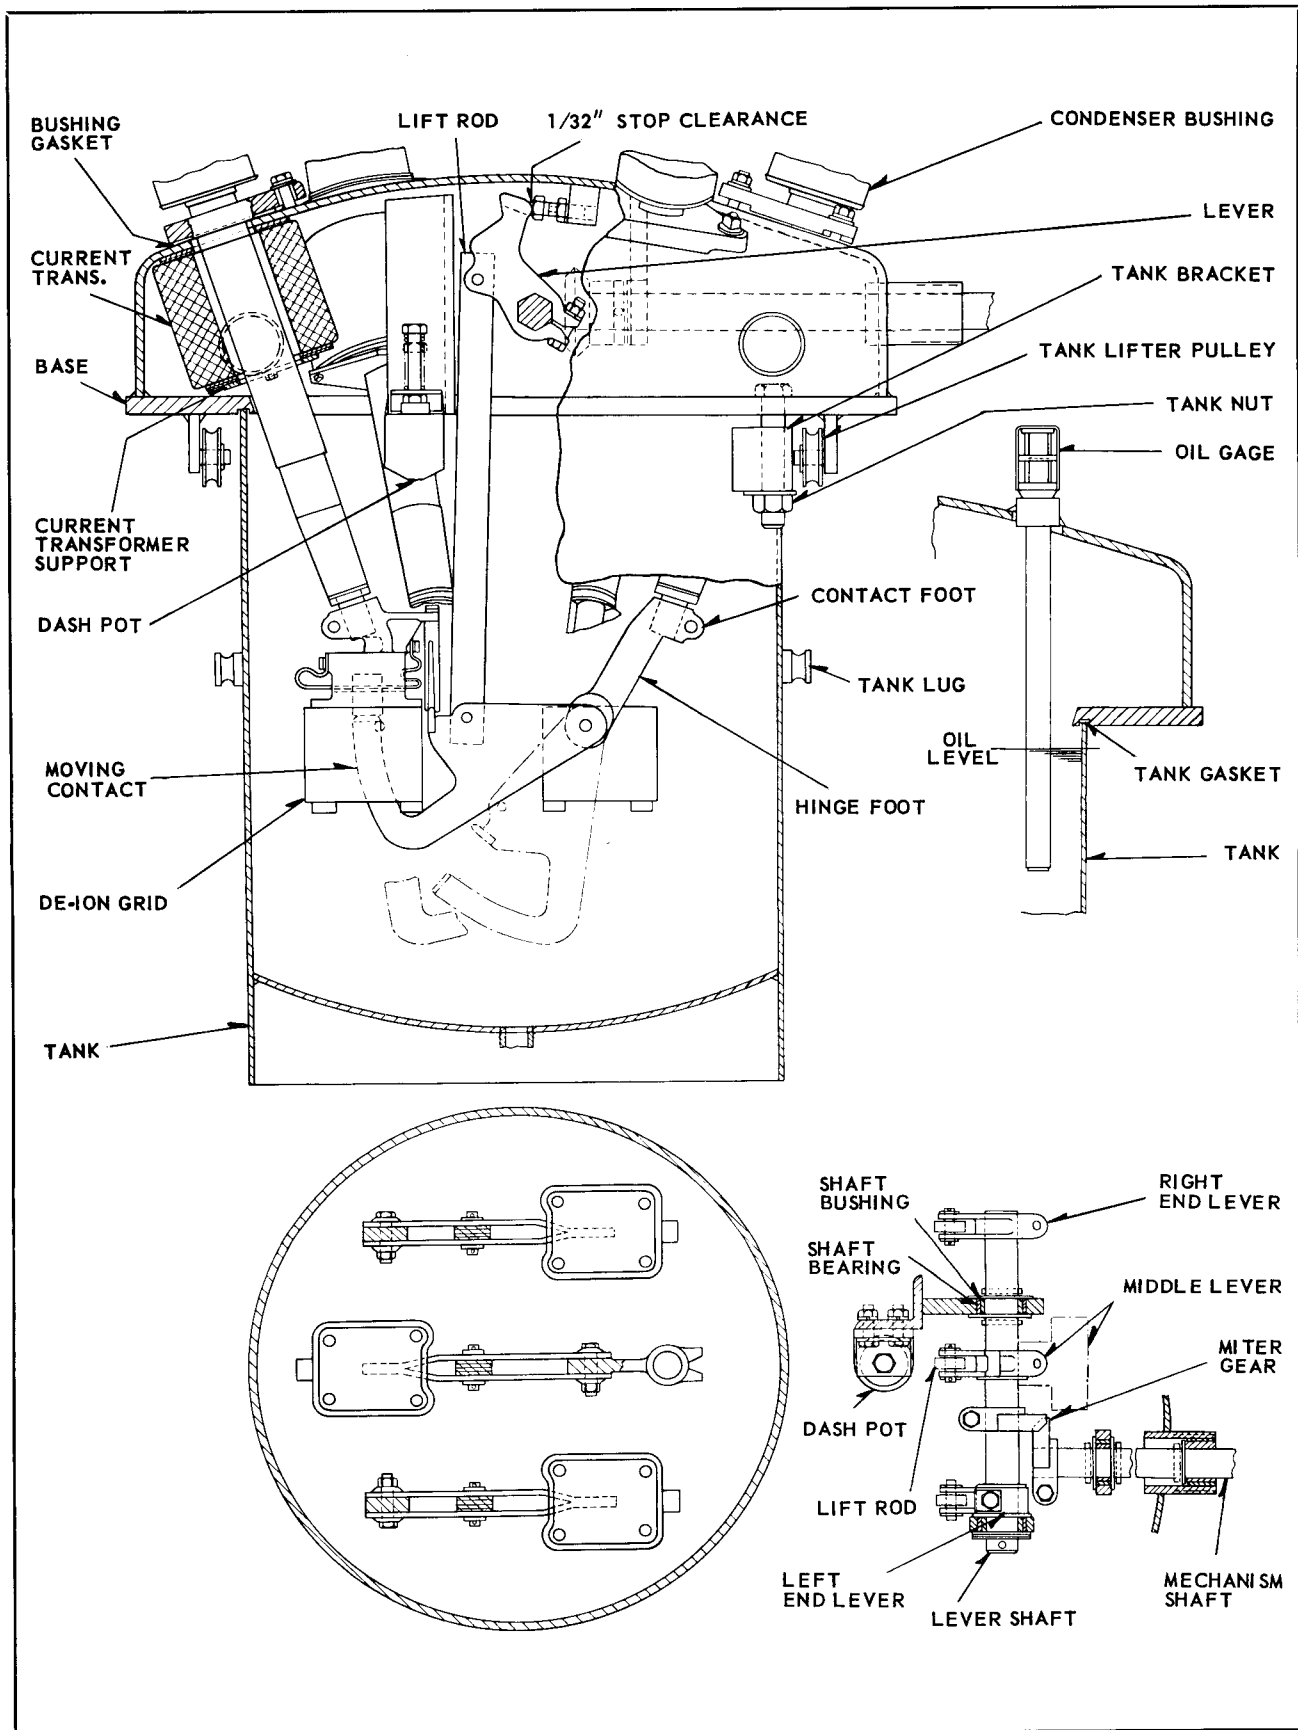
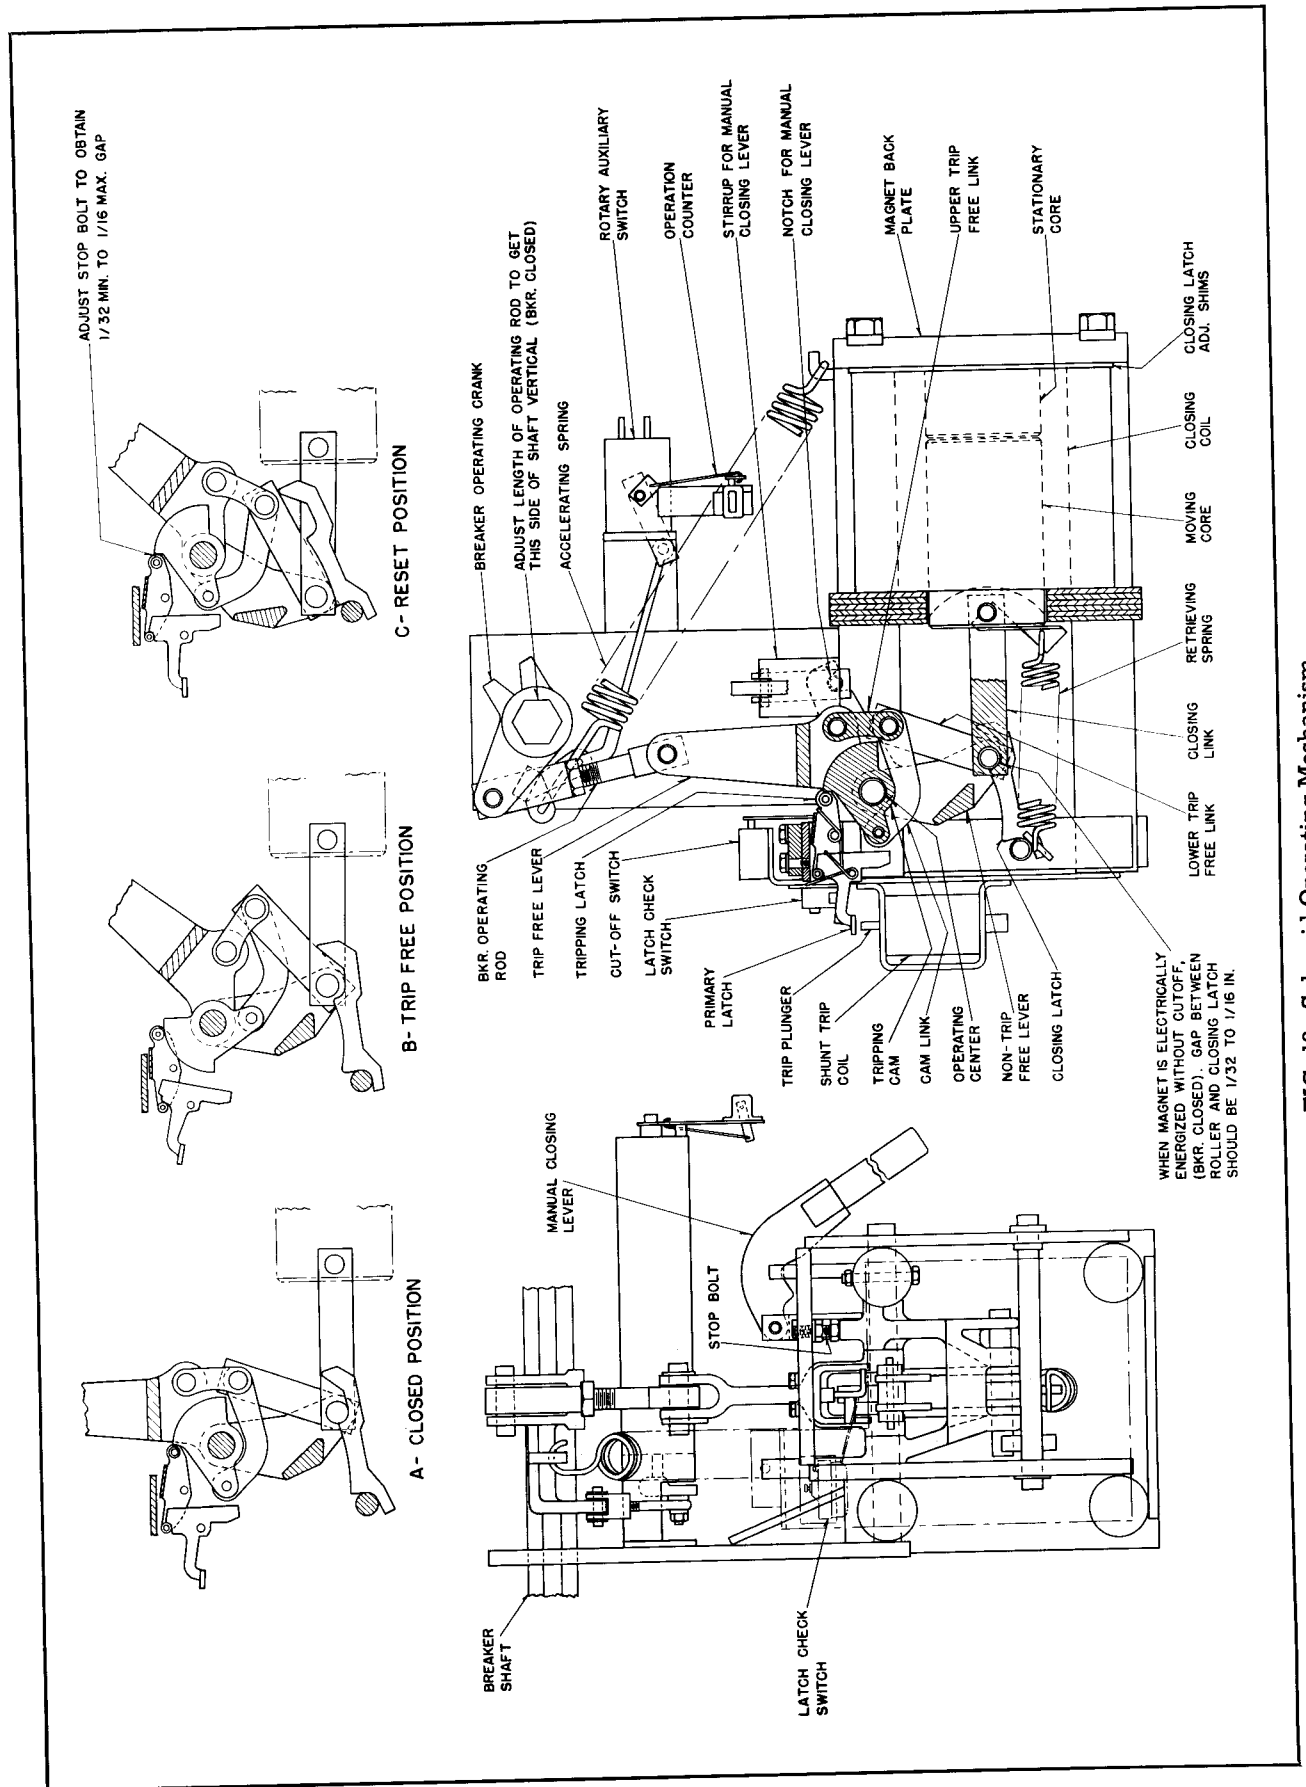

FIG. 4. Pole Unit Assembly—90° Arrangement
FIG. 12. Solenoid Operating Mechanism
6. Push down on hand closing lever in order to get enough overtravel to release the closing latch. Disengage closing latch with screw driver or small stick. (See Fig. 12).
11. Check for  $\frac{1}{32}$ " moving contact stop clearance under dome between middle crank lever and stop bolt (Fig. 4 or 5). With the solenoid mechanism closed and latched, the correct toggle position is obtained when two sides of the hexagonal operating shaft are exactly vertical. This position is controlled by adjusting the length of the operating rod to the solenoid mechanism—see Fig. 12. These adjustments should not require change unless the parts have been dis-assembled for some reason.
**Mechanism Operation.** The solenoid operating mechanism with its trip-free linkage is shown in Fig. 12. In this mechanism, the horizontal pull of the solenoid coil is transmitted to the contact operating rods through a system of links which rotate counterclockwise about the operating center. The linkage system consists of four (4) major links: the non-trip free lever, trip free lever, upper trip free link, and lower trip free link. These members are arranged as shown and are held to form a rigid member by the cam link and tripping cam. The tripping cam is held fixed by the tripping latch.
mechanism moves to the closed position, a probable cause is failure to reset. Refer to "C", Fig. 12. The gap indicated between the tripping latch roller and cam is an essential requirement to permit the tripping latch to fall into the cam notch. Watch the primary latch (with words "lift to trip"), it should return to the horizontal position immediately after breaker has been opened.
**Latch Check Switch.** The latch check switch is a small, light force, snap action switch which is operated by the primary latch. When a breaker is to be automatically reclosed after being tripped free, it is necessary to arrange the electrical control scheme so that the closing solenoid will not be energized to start the closing motion until the mechanism has completed the linkage motion to get to the reset position. See B and C of Fig. 12. For this purpose, the switch is arranged to be closed when the primary latch is reset, because the primary latch is the last part to reset in the sequence of linkage motions required to reset the mechanism. The action of this switch may be checked as follows. With the breaker open, raise the primary latch arm to end of its travel. Lower it slowly listening for the snap action of the switch. Note the position of the arm when the switch snaps closed. The switch should close when the latch arm is in an interval from  $\frac{3}{8}$  to  $\frac{1}{8}$  inch above the normal reset position measuring at the shunt trip plunger centerline. If switch action must be made earlier or later, bend the switch arm near the middle of its length.